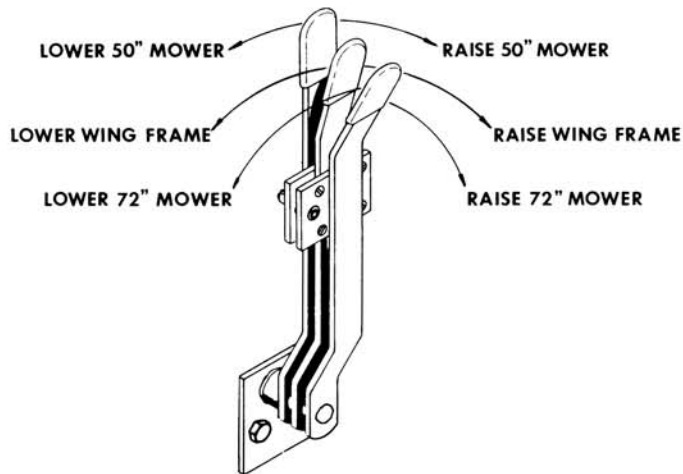

Fig. 1
Become familiar with the hydraulic control levers and the function of each lever. See fig. 1. Know how to engage and disengage the PTO control levers. See figs. 2 & 3.
2. Pushing forward on the outside hydraulic lever on the tractor will lower the 72 inch center mount mower. Pulling the lever back will raise the mower. See fig. 1.
3. Pushing forward on the inside hydraulic lever on the tractor will lower the 50 inch wing mower. Pulling back on the lever will raise the mower. See fig. 1.
4. Pushing forward on the middle hydraulic lever on the tractor will lower the wing frame assembly. Pulling back on the lever will raise the wing frame assembly. See fig. 1.
2. Start the tractor engine and push the middle hydraulic lever on the tractor forward and lower the wing frame assembly. Stop the tractor engine. See fig. 1.
4. Start the tractor engine and push the inside lever forward and lower the 50 inch mower deck. See fig. 1.